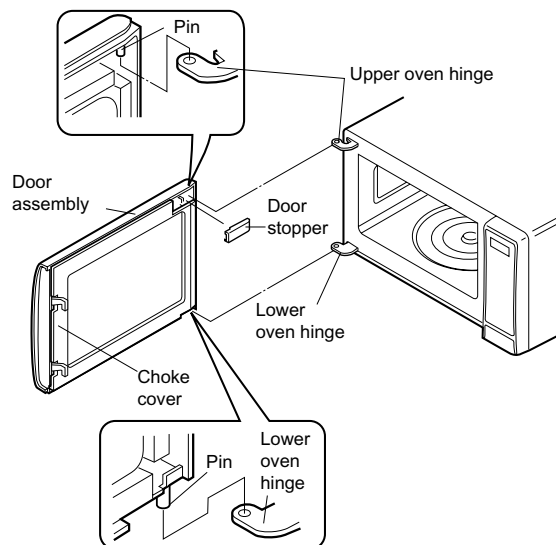

Figure C-5. Door Replacement
4. Reinstall door panel to door frame by fitting nine (9) tabs of door frame to nine (9) holes of door panel.
5. Hold the door panel to the door frame with the three (3) screws.
8. Catch two (2) pins of door panel on two (2) hole of upper and lower oven hinges as shown Figure C-5.